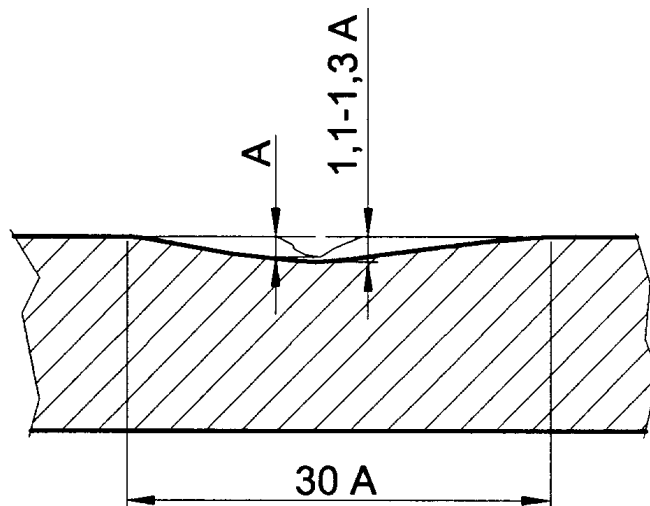

Fig.502 Depth and width of repair of the propeller blade surface
- (3) Damage of the sucking and the thrust propeller blade side repair that between repaired area and adjacent propeller surface will be smooth and continuous conversion and slight disciform pan. Cavity (grinding) width equals to 30x damage depth and repair depth must be between 1,1 – 1,3 damage depth (see Fig.502).